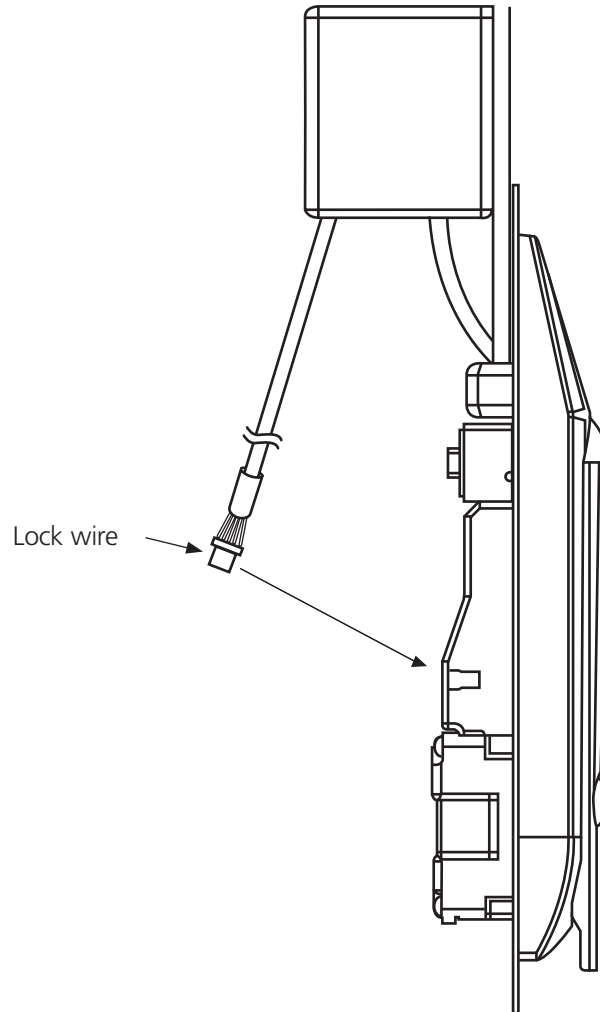

Figure 7. Ribbon cable positioned at top of the locking opening.
- Situate the lock on the outside of the cabinet door, so that the ribbon cable attached to the finger-sensor assembly is at the top of the locking opening. See Figure 7.
- Attach the lock wire coming out of the door interface box to the back of the lock as shown in Figure 7. The wire will only plug in one way.